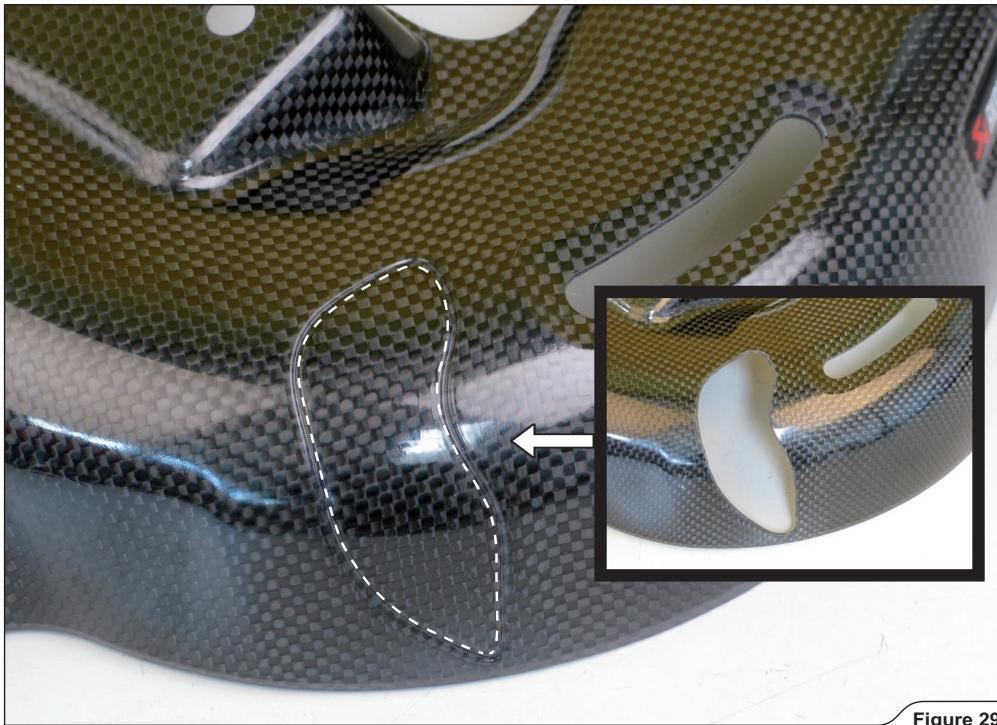

Figure 29
- For use of passengers foot rests only: carefully cut/grind the impressed part of the carbon fiber heat shield, as shown (Figure 29).